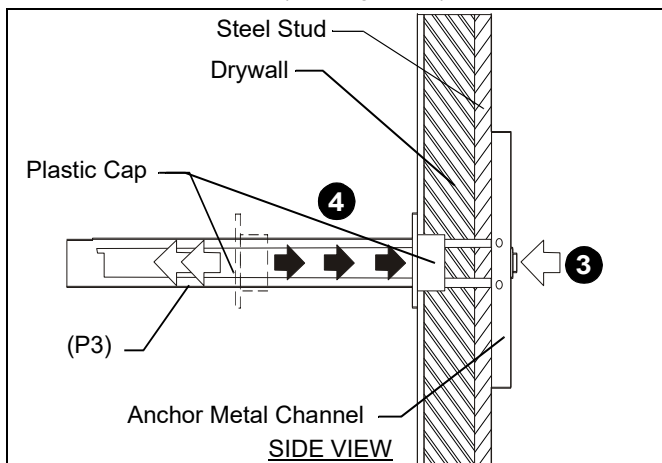

Figure 15
3. Holding plastic straps on anchor (P3), pull anchor away from wall until channel rests flush behind wall making sure anchor channel is positioned vertically on stud. (See Figure 15)
4. Slide plastic cap on anchor (P3) towards wall until flange of cap is flush with wall. (See Figure 15)